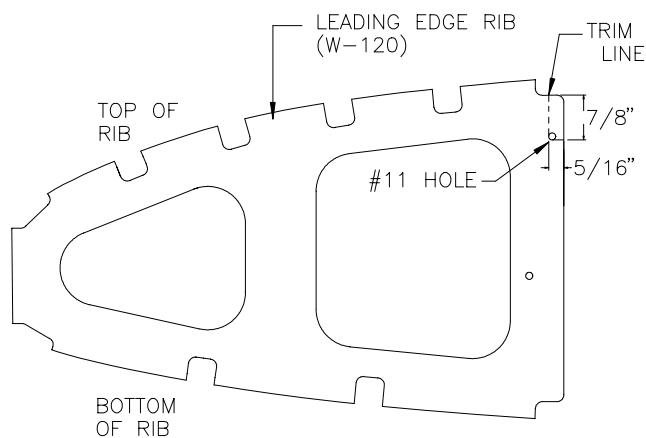

Figure 8.3.1
- 4) Cut out the rear top corner of the #5 and #6 ribs that come in contact with the 24" Spar Cap (W-137). Figure 8.3.1.